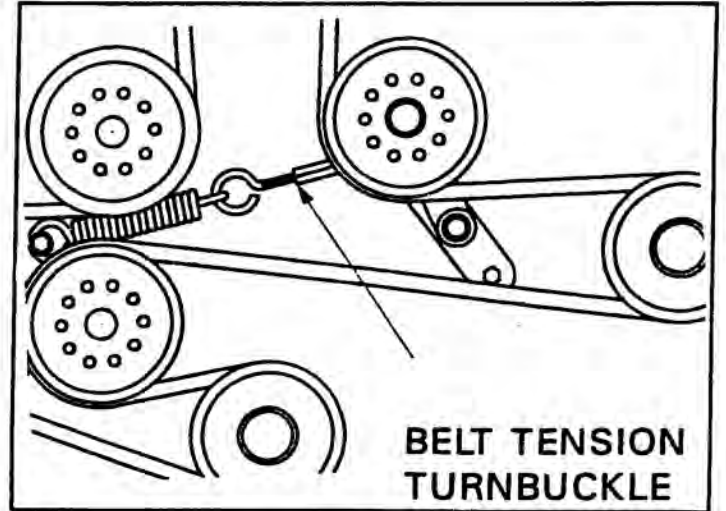

Fig. 2 - Turnbuckle Location
**Remove key from the ignition switch.** The deck drive belt, which may be accessed by removing the belt cover (see fig. 2) has a turnbuckle assembly to adjust spring tension. Spring tension should be maintained at 4" of spring stretch measuring the spring coils. By turning the turnbuckle clockwise it will increase tension, counter-clockwise will decrease tension.